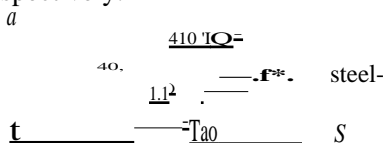

Fig. Q1 (b)
- b. A stepped bar is subjected to external loading as shown in Fig. Q1 (b). Determine the magnitude of axial force P such that net deformation in the bar does not exceed 02 mm. E for steel is 200 GPa and that for copper is 100 GPa. Larger diameter and smaller diameters are 40 mm and 15 mm respectively. (08 Marks)